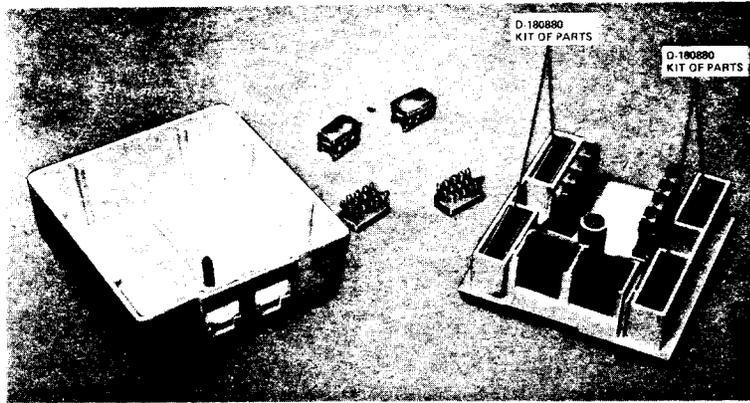

Fig. 9— 104A Connecting Block
**2.09** The 104A connecting block (Fig. 9) is used to connect two telephone sets or terminals to the line, either independently or in parallel. It is available in ivory only and consists of a plastic base containing two 8-contact jacks and two 8-position quick-connect fields, four plastic wire-terminating caps (see paragraph 1.03), and a screw-attached cover.